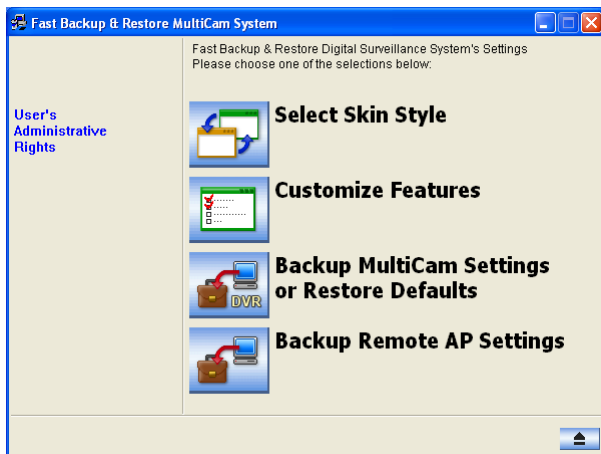

Figure 3
1. In the FBR window (Figure 3), click the **Select Skin Style** icon. The option menu appears.
1. In the FBR window (Figure 3), click the **Backup Remote AP Settings** icon, and select the desired application from the menu. For example, we select VSM Server. This dialog box appears.